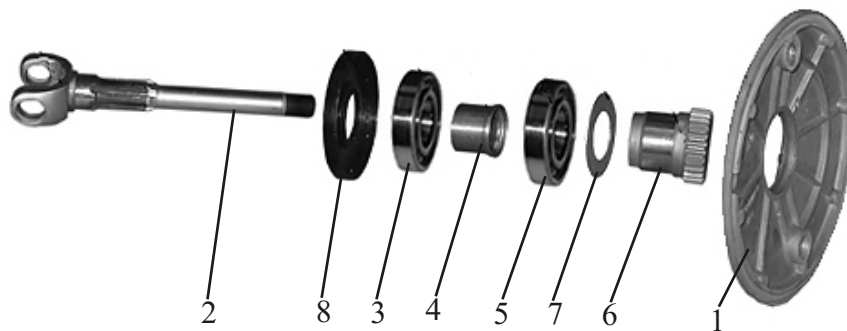

Fig. 93.
- Undo three bolts fastening the cover of the brake drum and remove the cover with brake shoes (Fig.93, Pos.1)
- Put the mandrel onto the sidecar wheel axle and remove the sidecar wheel shaft slightly hammering the mandrel. Remove the protective washer from the shaft (Fig. 93, Pos. 2,3).
- Remove bearing 180206 from the sidecar wheel shaft (Fig. 93. Pos. 3)
- Take out the distance bushing (Fig. 93, Pos.4)
- Using the mandrel remove the splined bushing in assembly with bearing 180207 from the wheel shaft (Fig. 93. Pos.5)
- Press off the splined bushing from bearing 180207 (Fig.93. Pos.6)
- Remove protective washer from the splined bushing (Fig.93, Pos.7)